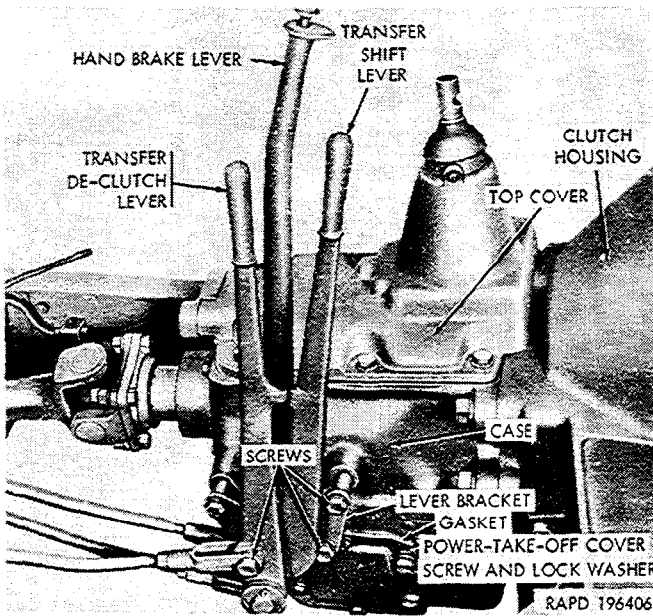

Figure 2-124. Transmission—right side.
(2) Remove the six capscrews and lockwashers that secure the cover to the transmission case (fig. 2-124) remove the cover and cover gasket. Discard the gasket.
(Fig. 2-124)
(7) Place the assembled handbrake lever and transfer shift levers and bracket in position at the side of the transmission and install the three lockwashers and screws (fig. 2-124). Tighten the screws evenly.
(8) Install the transmission access cover (para 2-76 f.).